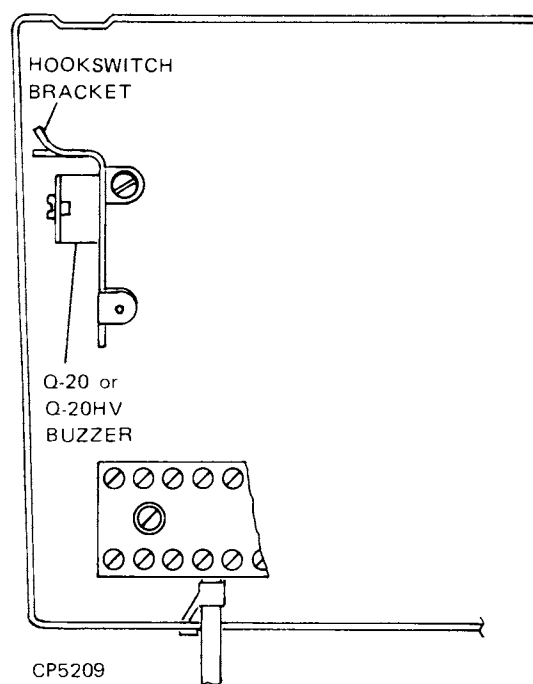

Figure 5. S-C No. Q-20 or S-C No. Q-20HV Buzzer Mounting
3. S-C No. Q-20 or S-C No. Q-20HV buzzer (see fig. 5).